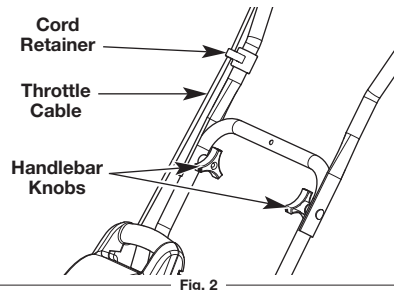

Fig. 2
1. Loosen the two knobs on the inside of the handlebars (Fig. 2).
NOTE: Take care not to pinch the throttle cable when positioning the handlebars (Fig. 2).
3. Tighten the knobs to secure the handlebars in place (Fig. 2).